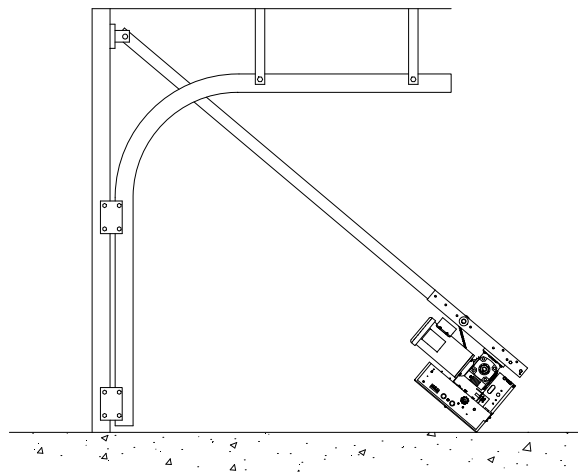

Figure 8 Wall mount bracket
7. The wall mounting bracket has three bolt holes for mounting the front end of the trolley tracks. The bracket should be attached to the wall with these holes 2.5" (6.4cm) above the high arc of door (Figure 8). Wood blocking or angle iron framework may be installed on the wall to provide for the attachment of the front bracket.